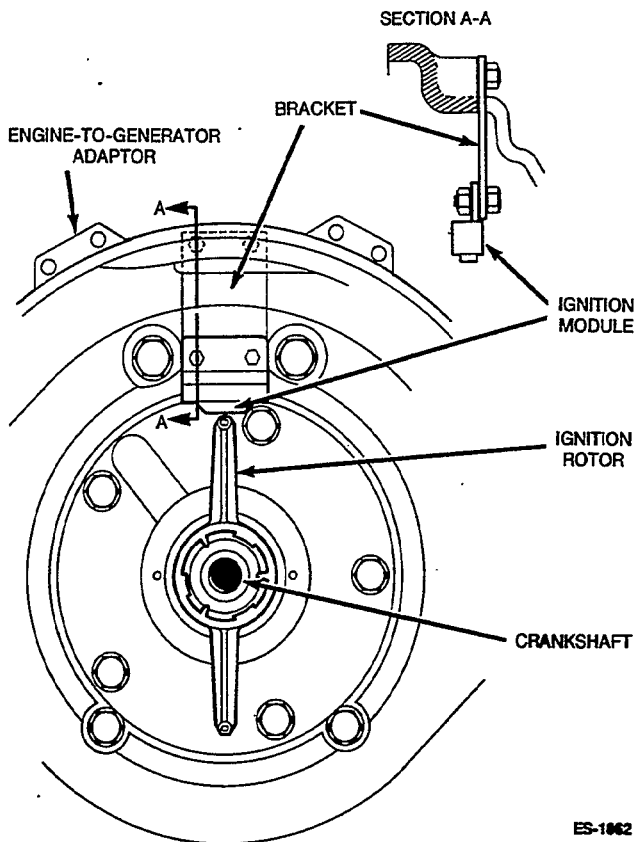

FIGURE 6-6. IGNITION MODULE AND ROTOR
The ignition rotor is keyed to the engine crankshaft (Figure 6-6). The ends have opposite magnetic polarity (north and south). One pole switches on the ignition module and the other pole switches it off, once each revolution of the crankshaft. The ignition rotor normally should not require replacement during the life of the generator set.
The ignition module is mounted to the generator/engine adaptor, as illustrated in Figure 6-6. It is an electronic switch in the primary circuit of the ignition coil. It is switched on and off once each revolution by the rotor. The ignition module contains no user-serviceable parts; problems within the module mean that it must be replaced.
- Rotate the flywheel clockwise by hand. Replace the ignition module if voltage does not jump from about 1 volt to about 12 volts, and then back again, each turn of the crank. To replace the module, remove the bracket mounting screws (Figure 6-6) and lift out the bracket/module assembly. Be sure to assemble the new module to the bracket as shown by Section A-A, Figure 6-6. The studs on the bracket must point to the generator end when assembled.